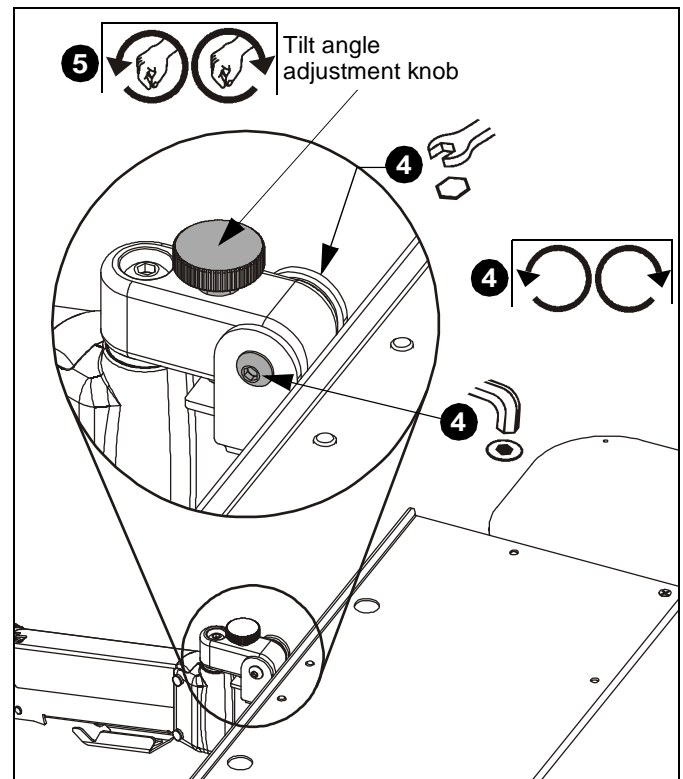

Figure 11
4. Adjust tray tension using a 7/16" wrench and a 5/32" (L) hex key. (See Figure 11)
5. Adjust the tilt angle adjustment knob as necessary to set tilt angle of keyboard tray. (See Figure 11)